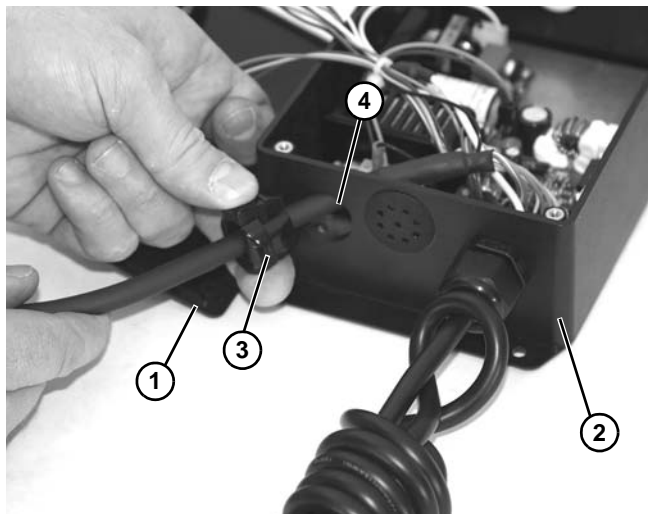

Figure 8
2. Remove four screws and cover (Figure 8, item 1) from controller (Figure 8, item 2).
3. Pull out cord retainer (Figure 8, item 3) from controller opening (Figure 8, item 4).